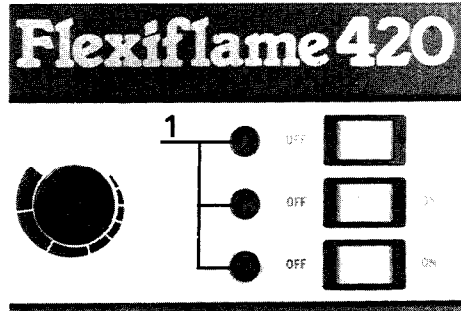

Fig. 30
- b) Using 6 mm wide blade screwdriver, push fuse holder (1, fig. 30) in and turn 90° anti-clockwise.